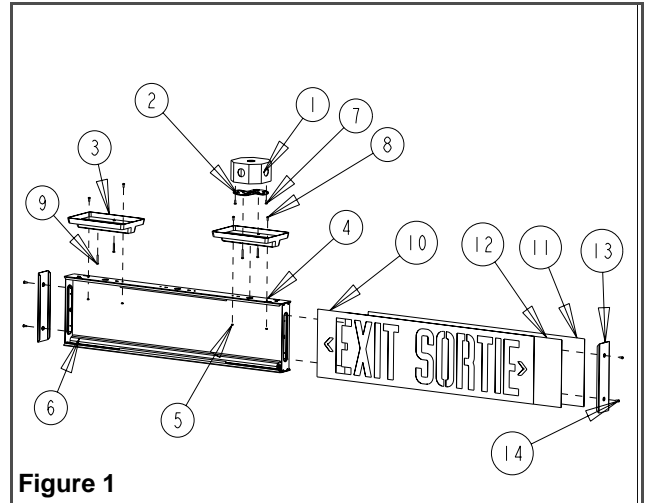

Figure 1
3. Remove exit face. To open the sign, slide out the exit face and the diffuser panel (see fig. 1).